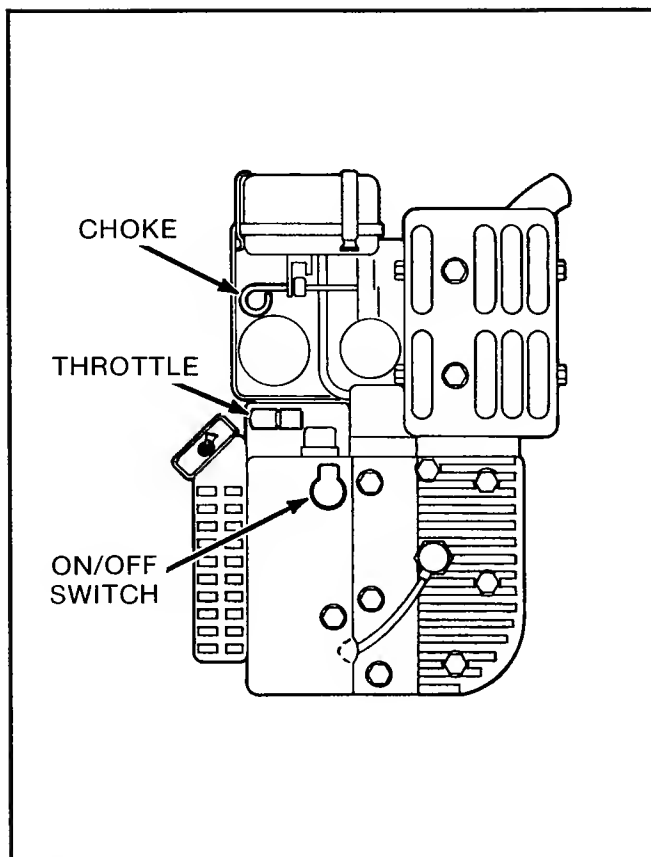

Figure 7
1. If your edger has a *Kawasaki engine*, set RED engine stop switch to ON position. Choke and throttle levers are on the right side of the edger between the engine and the air cleaner (Figure 7).